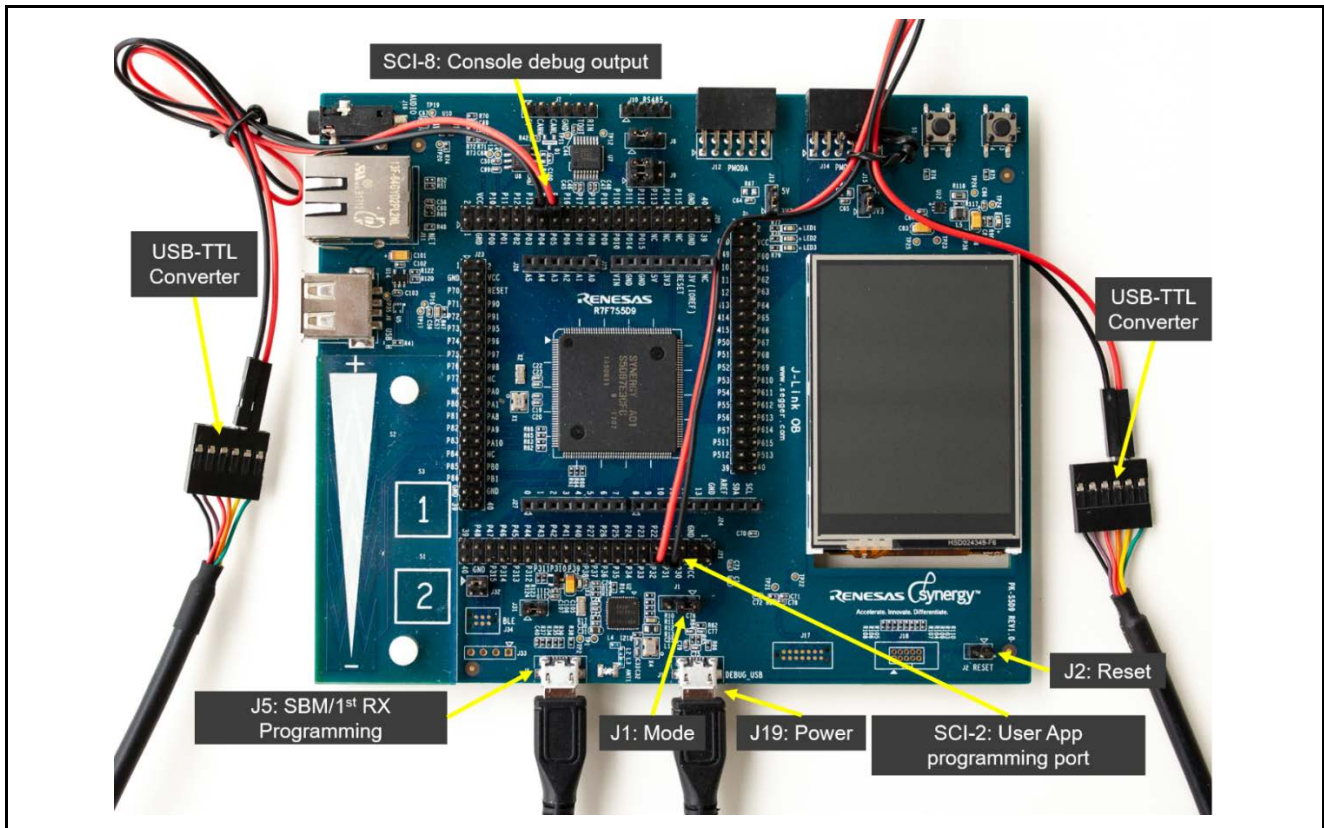

Figure 1. Wiring Diagram
- Connect USB to Serial TTL converter adapter to SCI-8 on the board as shown in Figure 1. Plug the USB connector into the PC. This is used to display information on the console log. **Do not connect the second USB-TTL cable to the PC or board yet.**